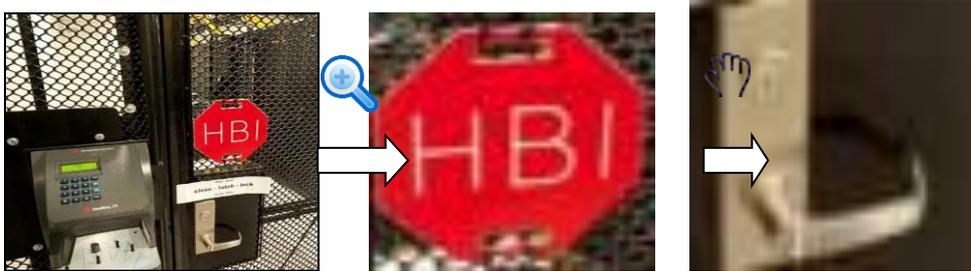

Figure 4-17
- Put the middle button at the centre of the zone you want to zoom in, and move the mouse, you can view an interface shown as in Figure 4-17.